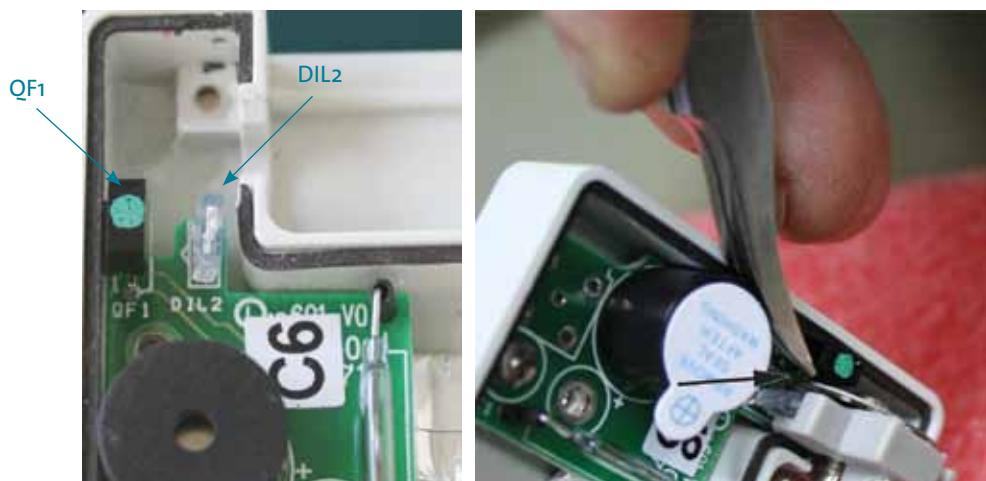

Figure 9. QF1, DIL2 (left), verifying encoder moves easily (right)
- b To ensure that the pump block's actuator inserts and turns easily, verify that QF1 and DIL2 on the motor encoder PCB are upright and not tilted (Figure 9).